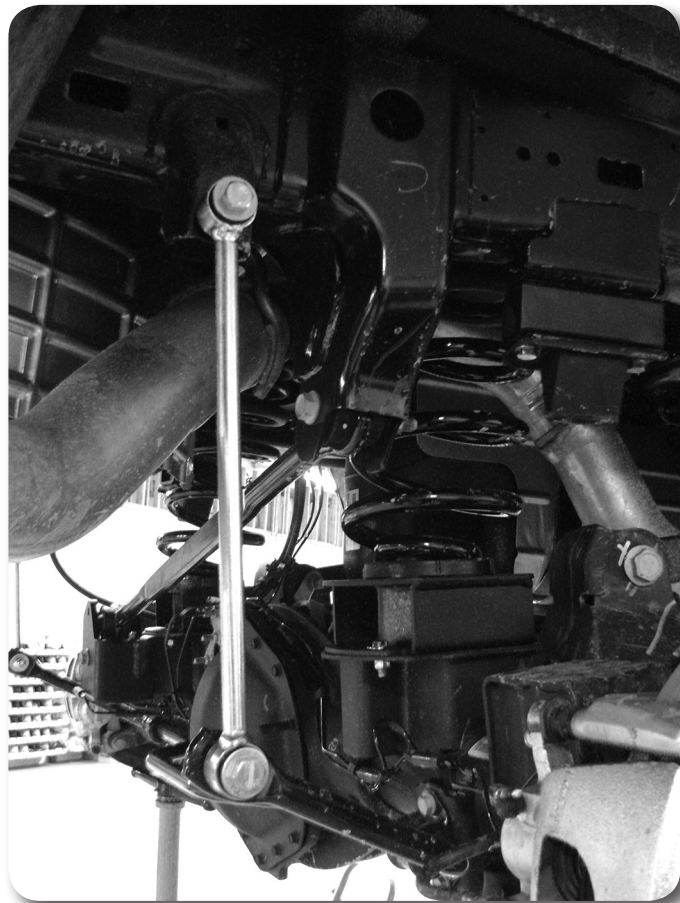

Figure 8
15. Grease bushings and sleeves and install into sway bar links. Install sway bar links with new 12mm hardware. (BP 674). Tighten to 45 ft-lbs. **Fig 8**